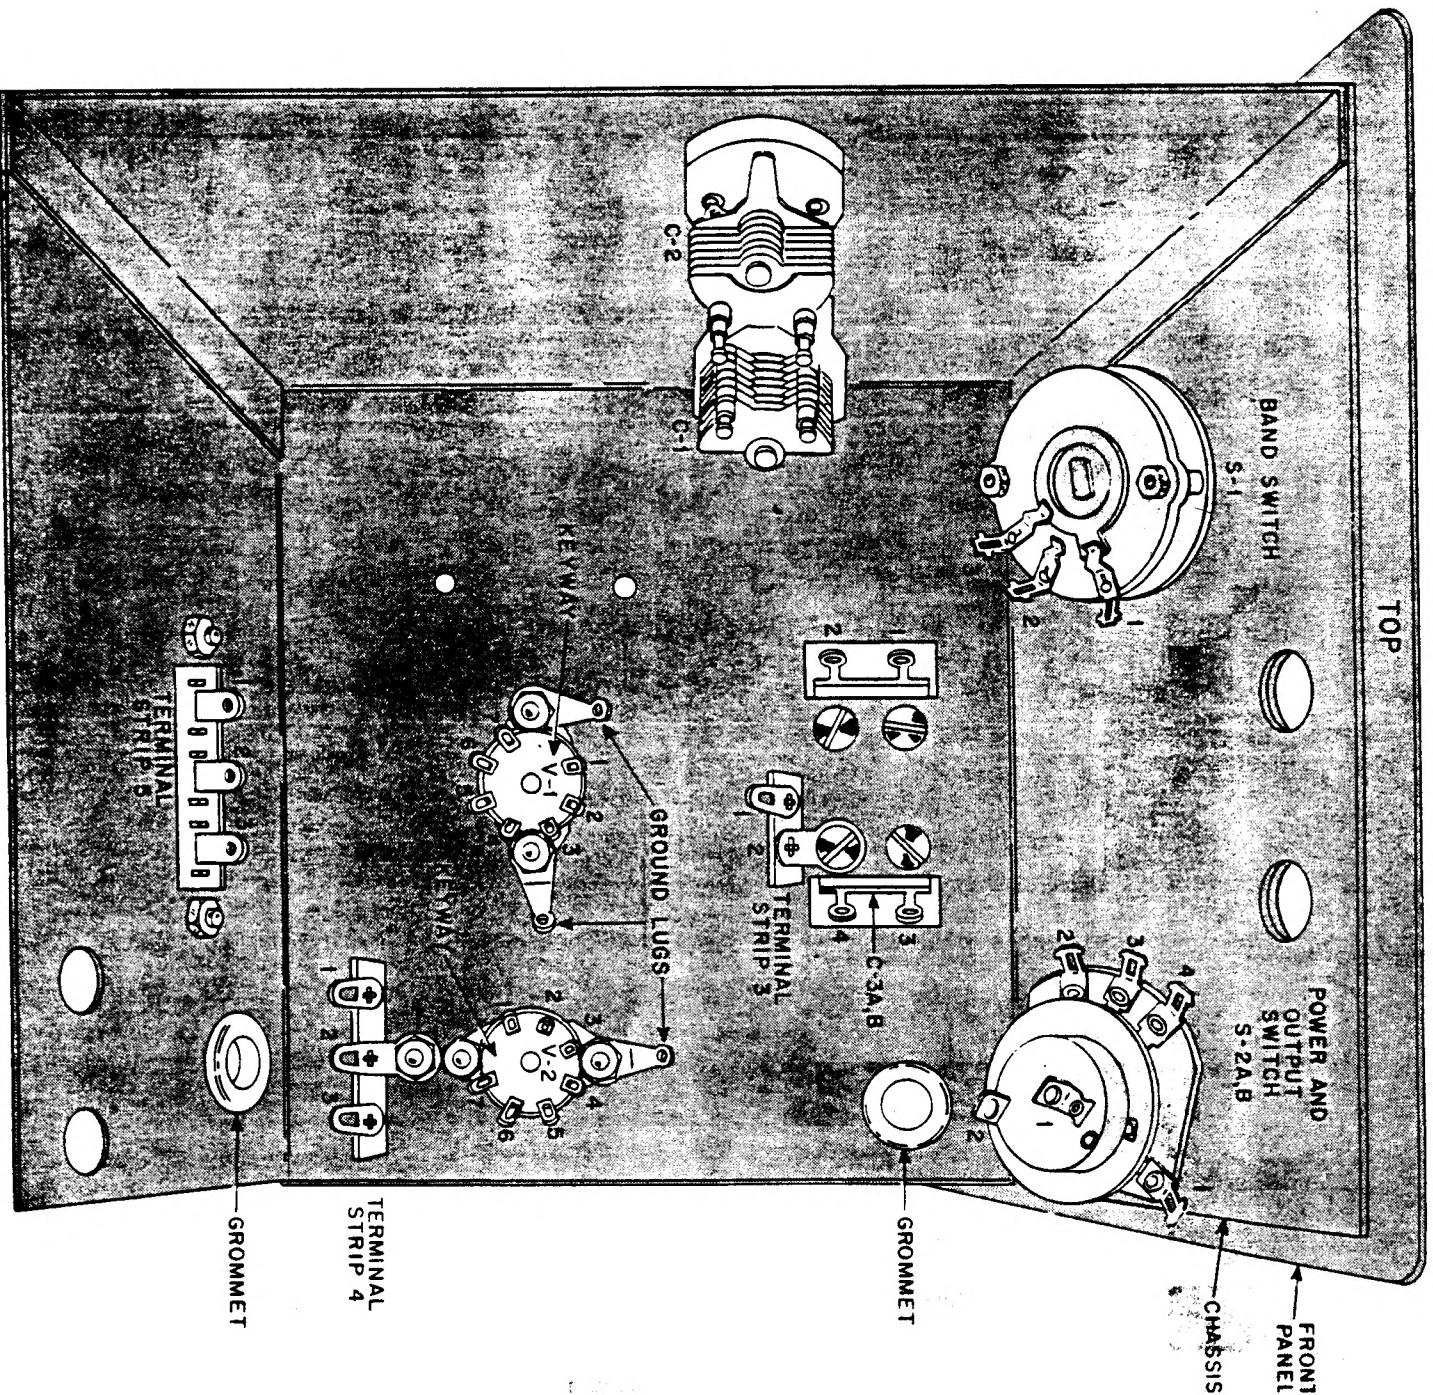

FIGURE 6.
SEE FIGURES 6 AND 7.
SEE FIGURE 6.
- () Mount the light colored socket for V-1, the 6BH6 oscillator tube, inside the chassis in the large hole nearer the center. The keyway or wide space between two of the pins must be toward the left as shown in Figure 6. Place a ground lug under each mounting nut and use two of the smaller machine screws and nuts to fasten V-1.
- () Mount the last bakelite socket for V-2, the 6AK6 huffer tube, from inside the chassis. The keyway or wide space between two of the pins must be toward the back of the chassis as shown in Figure 6. Put a ground lug under the front mounting nut and use two of the smaller machine screws and nuts to fasten V-2.
SEE FIGURES 6 AND 8
- () C-1 and C-2 are both 75 MMFD air padder capacitors. Mount one on the left inside the chassis as shown in Figure 6. Use two of the four machine screws packed with C-1 and C-2. Use the other two machine screws to mount the other air padder right above the first.
- () Check all of the work. Be sure the parts are positioned as shown in Figure 6. The socket keyways must be as shown, the terminals on the switches must be toward each other, and the air padders must be as shown.